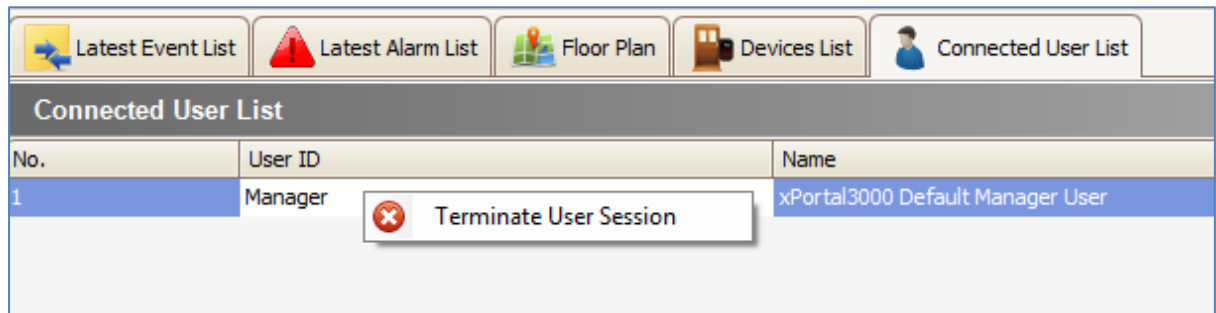

Figure 287 - Terminate User
- Right click on the System User to terminate user session (Refer **Figure 287**).